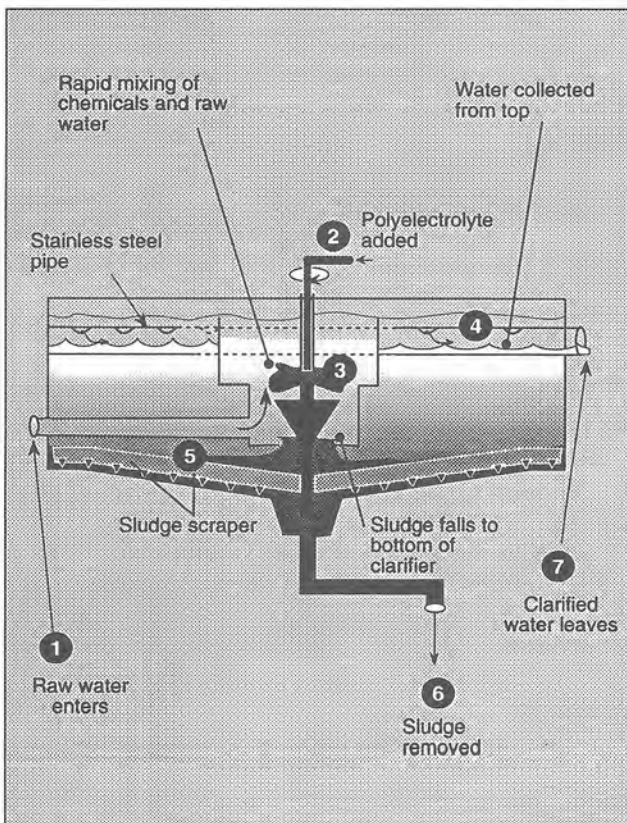
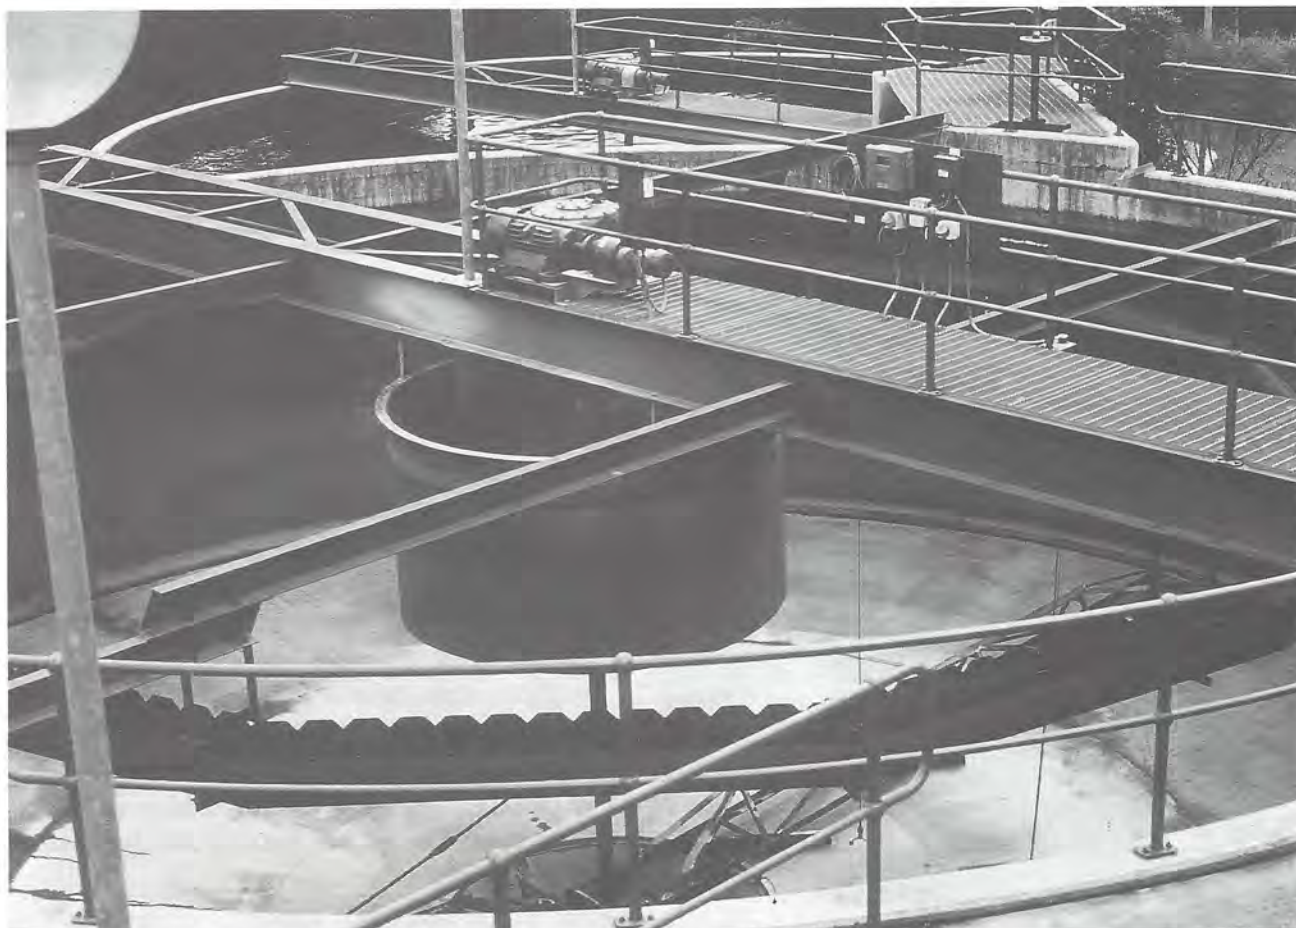

Fig 4 A clarifier is used to remove solid materials by the addition of polyelectrolyte.
Fig 5 Empty clarifier - the rows of teeth in the foreground is where the clarified water is collected
to help the particles grow in size. The process by which polyelectrolyte and particulate matter combine to form sinking particles is called flocculation and is not a chemical reaction. This is shown at step 2, in Figure 4.
Figure 4 shows a clarifier as well as other parts of a treatment plant. Figure 5 shows an empty clarifier. Scrapers can be seen at the bottom of the empty tank. They remove the settled material from the tank.
To understand the settling process, follow steps 1-6 in Figure 4.
Clarified water from 7 in Figure 4 is delivered to a filtration tank for further removal of fine suspended matter and algae not removed in the clarification process.
Sludge from step 6 in Figure 4 as well as backwash water is concentrated in a thickening tank where further chemicals are added to de-water the sludge. The chemicals cause the sludge to separate from the water particles. The sludge is then fed to a rotating drum, filter press or lagoon for further removal of water before being dumped as landfill.
- The second stage is flocculation. This occurs at step 3 in Figure 4 where slow stirring/mixing helps the smaller coagulated particles grow in size (floc together) to form larger flocs which settle more readily in the clarifier.